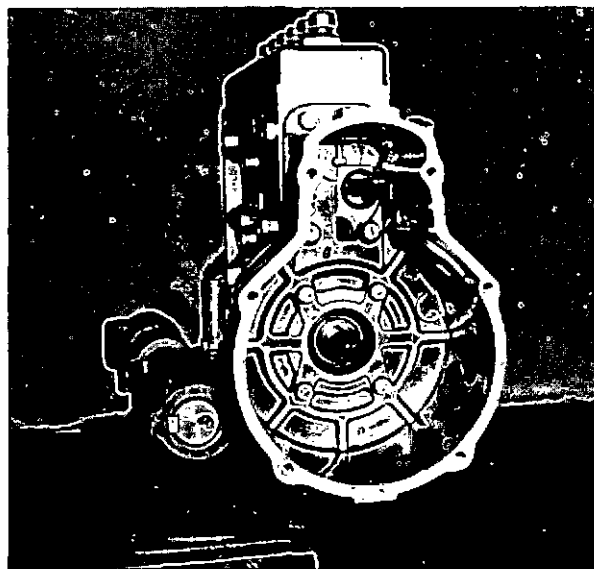

Fig. 2 Pump on swivel vice.
3. Mount the pump on a suitable rig, such as the swivel vice 0 681 240 048 shown in fig. 2. Remove the rear cover and dismantle the governor as described under 'DISMANTLING' in Part 2.